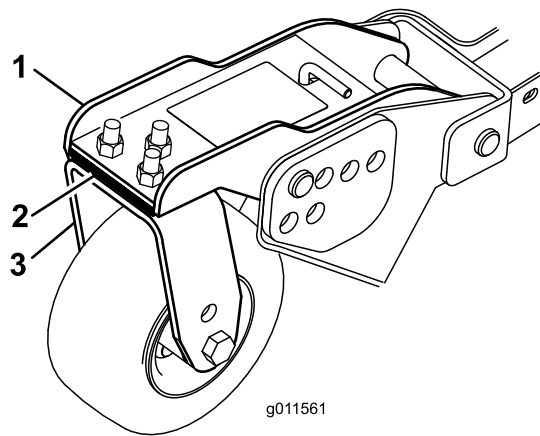

Figure 30
Rotate blade of each spindle until the ends face forward and backward. Measure from the floor to the front tip of the cutting edge. Adjust 3 mm (1/8 inch) shims on front castor arm(s) to match height of cut to decal (Figure 30). For the outside blade spindle only, refer to Adjusting the Cutting Unit Pitch \(page 53\).
3. If the inside edge of the side cutting unit is too high relative to the outside edge of the front cutting unit, remove one 3 mm (1/8 inch) shim from the bottom of the front inside castor arm on the side cutting unit (Figure 30). Recheck measurement between outside edges of both side cutting units and inside edge of side cutting unit to outside edge of front cutting unit.